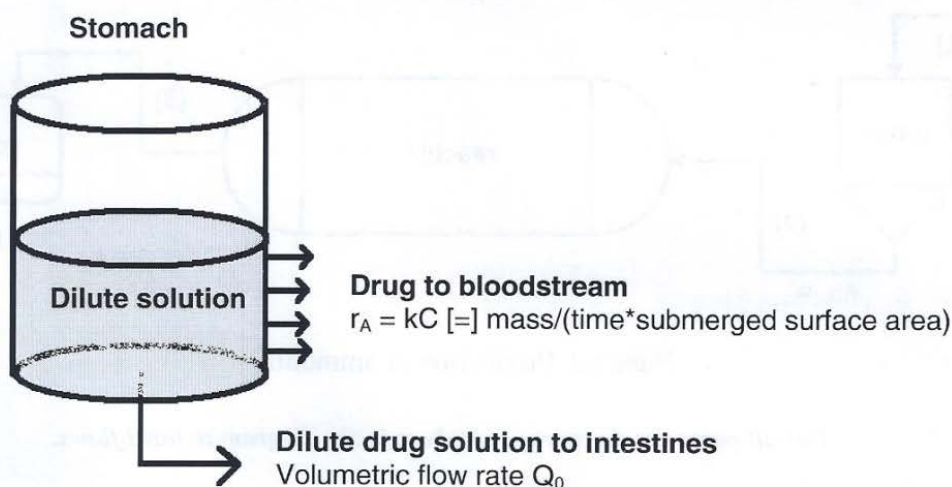

Figure 1. Drug absorption into bloodstream and loss to intestine.
(115) 1. A systemic cancer drug is taken orally as illustrated in Figure 1. The drug quickly dissolves in the stomach cavity (taken as a well-mixed cylindrical tank of diameter D) initially filled with aqueous broth to form a dilute aqueous solution of concentration C_o . Initial height of liquid broth is h_o . Stomach fluid continually drains into the intestine at a constant volumetric flow rate, Q_o . The drug, however, can also leave through the side walls of the cylindrical stomach at a rate per area $r_A = kC$, where k is a constant and $C = C(t)$ is the concentration of drug in the stomach at time t . Please note, kC has units of mass/time/submerged surface area. Let $A(t)$ be the surface area through which drug is leaving the stomach wall for the bloodstream. To be clear, while the drug can leave both to the intestine and through the liquid-exposed stomach wall to the bloodstream, stomach broth only flows out through the intestine.